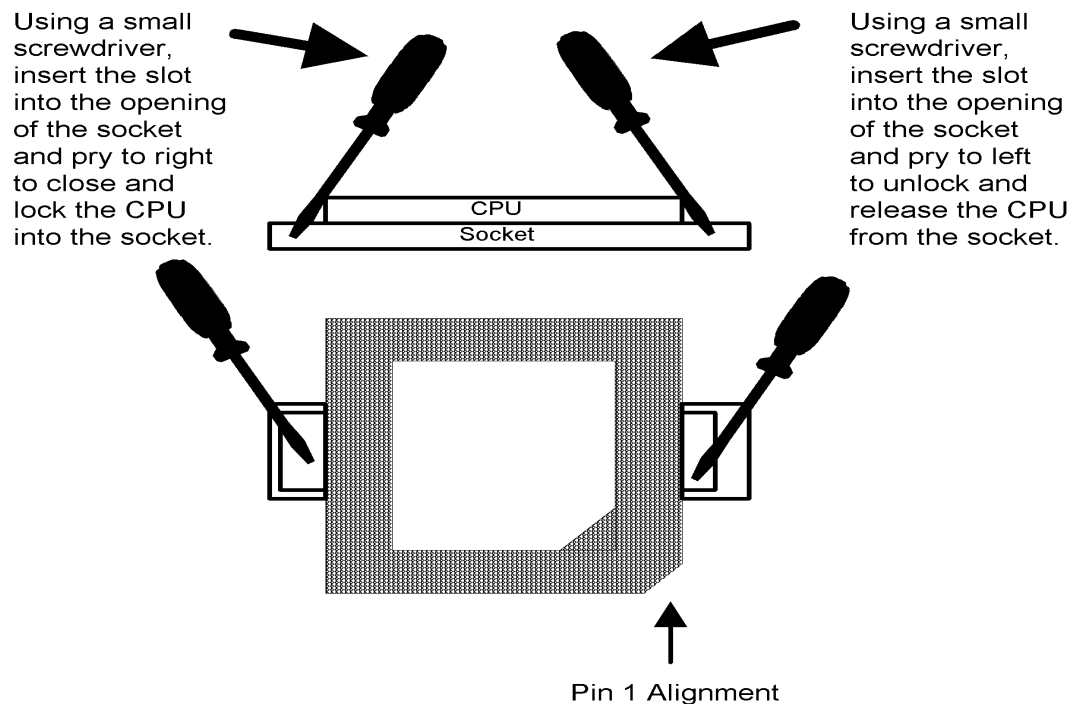

Figure 6-6 Removing the Processor Chip
The illustration in Figure 6-6 shows the procedure for removing/replacing the processor from/to the processor socket on the Main Board.
2. Insert a small flat-blade screwdriver into the rightmost opening as shown in Figure 6-6.
3. Gently pry to the left (with pin 1 alignment at the bottom right as shown in Figure 6-6).
5. To install a chip into a vacant CPU socket, insert a flat blade screwdriver into the opening at the right side of the processor socket (refer to Figure 6-6) and pry to the left to unlock socket.